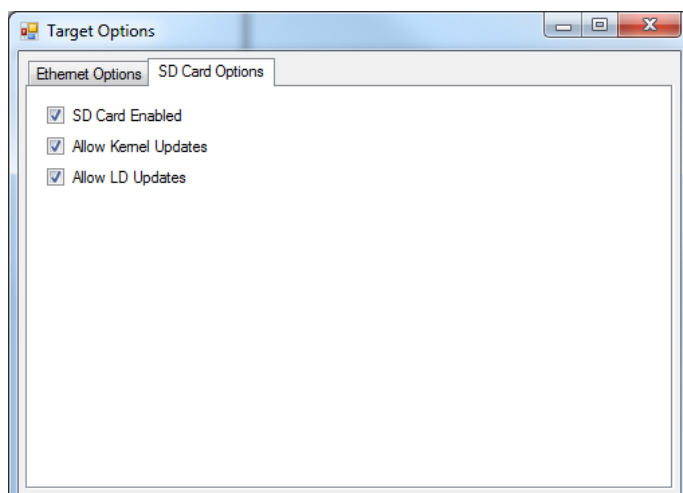

Figure 2-29 - SD Card Options
8. Click the **TARGET OPTIONS** button. The Target Options window will open. There will be two tabs in this window. Click the **SD CARD OPTIONS** tab. See Figure 2-29.